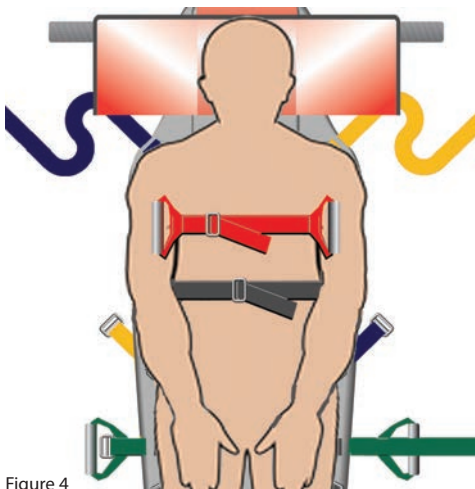

Figure 4
2. Next, fasten and tighten the Waist strap as shown on Figure 4.